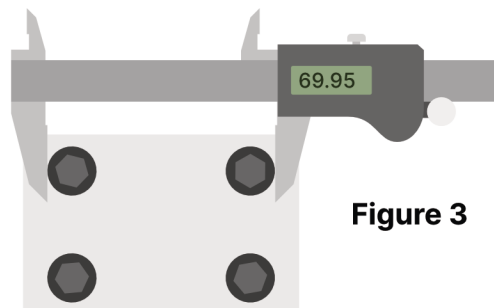

Figure 3
2. Using the zeroed-out calipers, measure the bolt square or bolt circle to the outside of the bolt heads. Figure 3 shows how this is done. If you are not sure if the flange pattern is inch or metric, measure in inches, and if the resulting measurement is more than a few thousandths of an inch from a simple rational number, the flange is possibly metric. To check, hit the in/mm button on the calipers or multiply the inch measurement by 25.4. If the number is close to a simple rational number in metric, you can assume that the flange is metric.
3. Because the zeroing process in the first step accounts for the radii of both bolt heads and bolt holes, the dimension on the calipers' display is the distance between the center-lines of the bolts. Use this dimension when ordering your replacement flange. Note that in figure 3, the calipers display a dimension of 69.95mm. This would be the actual dimension measured ($\pm .05$ mm) but in this case, the nominal dimension for the relevant standard is 69.9mm ($\pm .25$).
If the bolt holes are accessible, use the shorter ID measuring nibs to measure the ID of the holes instead of the OD of the bolt holes in step 1. Then, measure the outer arc of the bolt hole diameters similar to figure 3 to achieve the same result.